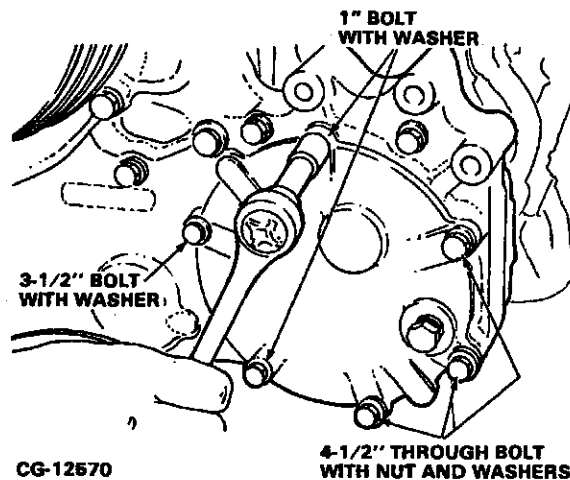

Figure 11.23. Remove Injection Pump Drive Gear Access Cover Bolts
- a. Loosen and remove the six fasteners which secure the access cover. Refer to Figure 11.23.